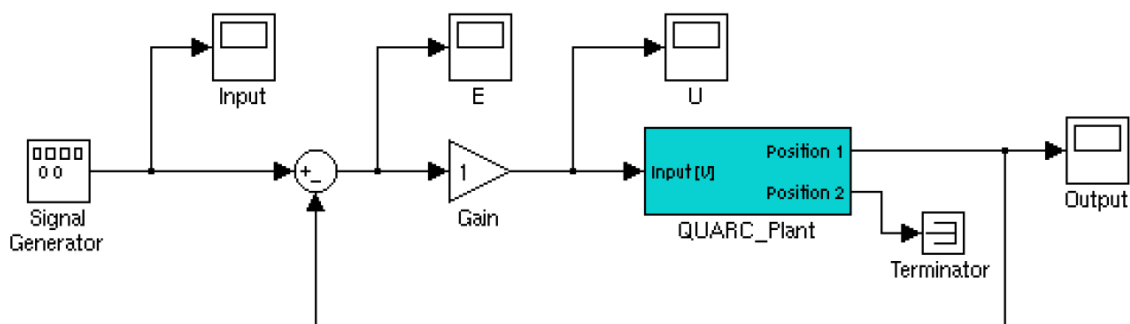

Figure 8: Simulink block diagram for frequency response test.
4.3a. In Simulink, use the setup shown in Figure 8. Set the Proportional Gain K_p to **1.0** [V/mm] and measure the frequency response of the closed-loop position control system by applying sine wave position commands with ± 2.0 [mm] amplitude. Use the following freqs: $f=0.5, 1, 2.5, 5, 10, 25, 50$ (Hz). Save input signal (x_r), output signal (x) and control input signal (u) measurements. **Note: In testing frequencies over 5Hz, do not run the setup for longer than 5 seconds at a time.**